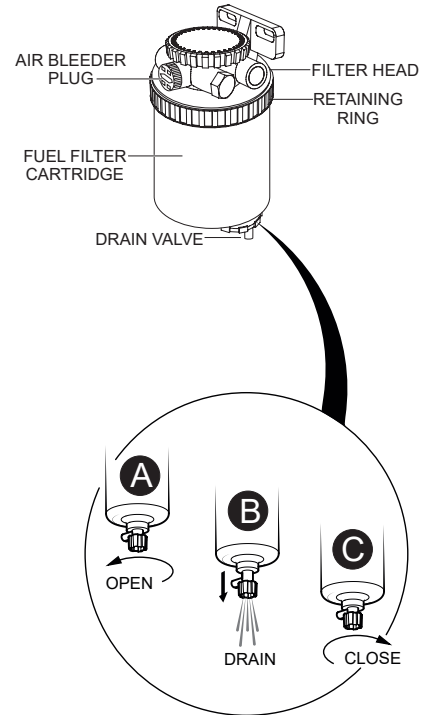

Figure 60. Draining The Fuel Filter
1. Loosen the air bleeder plug (Figure 60) on the fuel filter head.